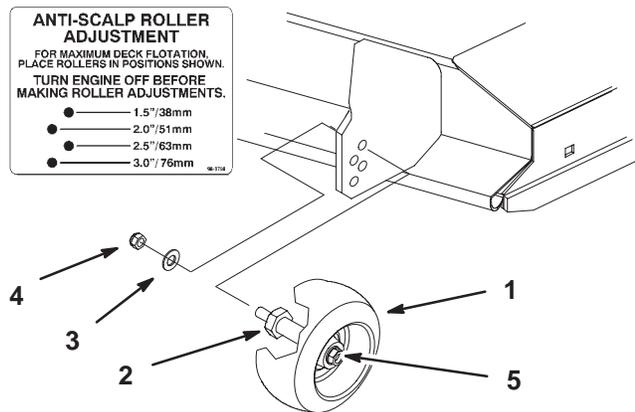

Figure 23
2. After adjusting height-of-cut remove flange nut and spring disk while holding stud with wrench (Fig. 23).
Note: Do not remove the wheel nut and washer (Fig. 23).
3. Select hole so gage wheel is positioned to the nearest corresponding height-of-cut desired (Fig. 23).
4. Reinstall the flange nut and spring disk. Torque to 40–45 ft–lb. (54–61 N•m) (Fig. 23).